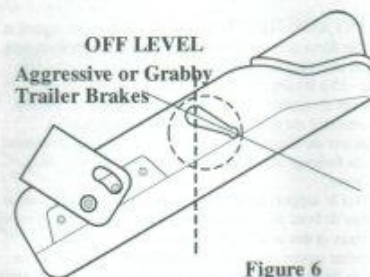

Figure 6
- Pendulum leveling arm adjusted too far toward the front of the controller (Fig. 6):
- If the controller is not adjusted correctly; the trailer brakes can possibly pulse with 4-way flasher lights. (Fig. 6)